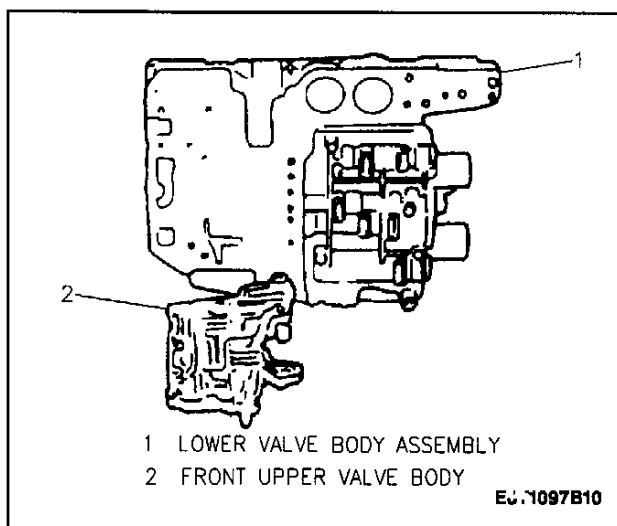

Figure 108—Installing Lower Valve Body to Front Upper Valve Body (03-72LE, 4-Speed)
7. Lower valve body assembly to front upper valve body (Figure 108).